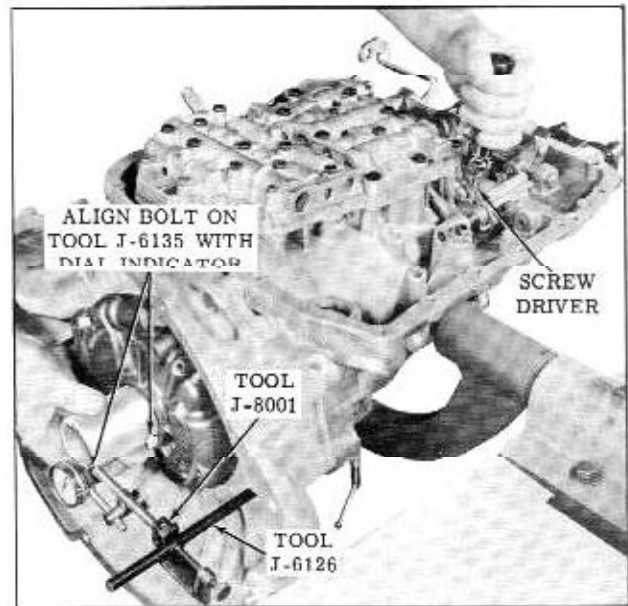

Fig. 3-115 Checking Front Unit End Play
- a. Remove one case cover to case attaching bolt and install tools as shown. (Fig. 3-115)